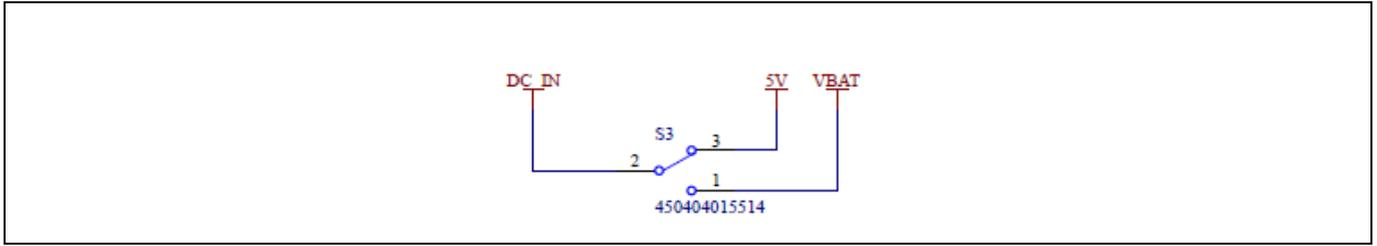

Figure 13 Board power selection (S3) schematic
*Note:* The radar wing board must be manually switched to either battery or external 5 V supply (switch S3 in Figure 13).
Figure 13 shows the board power selection schematic.